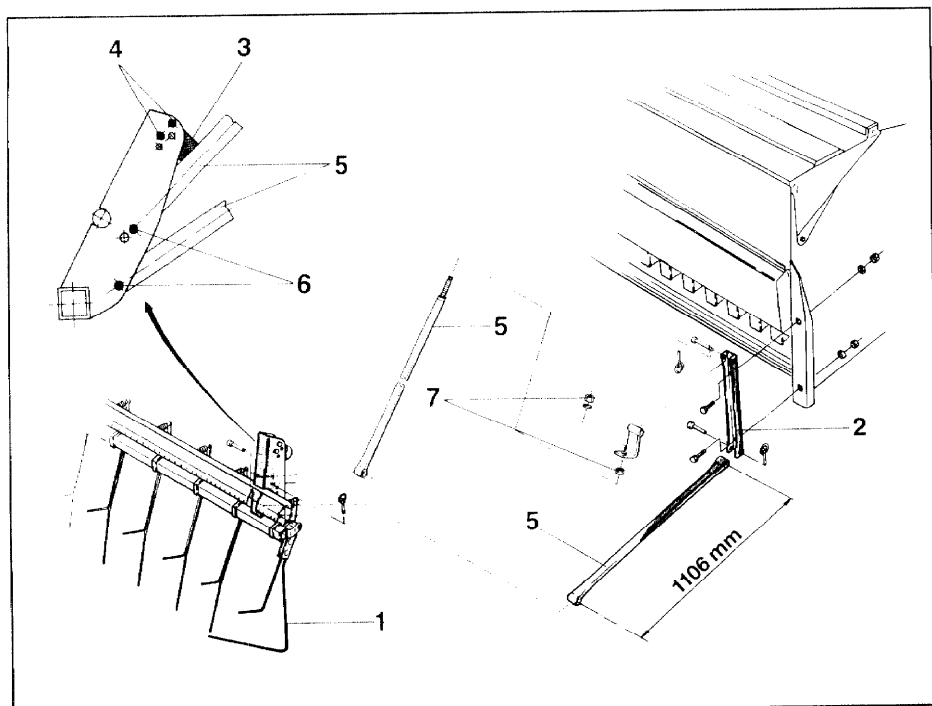
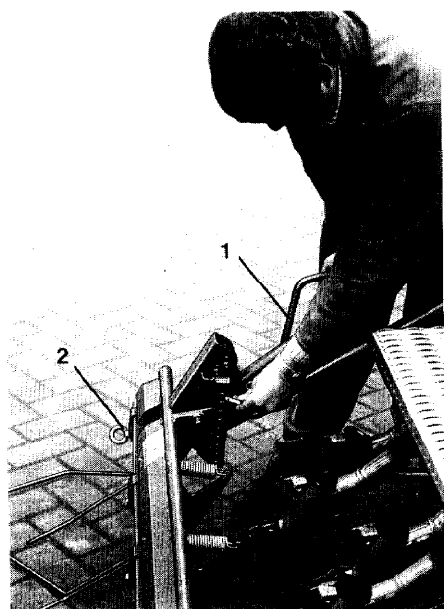

Fig.60
Fig.61
Before fitting the seed box rape insert the agitator shaft drive should be disengaged and the fingers of the agitator shaft should be placed in a vertical position. To do this remove the clip pin which connects the drive with the agitator shaft as shown in Fig. 61.
After sowing the seed is evenly covered with soil by the Extra Coverage Following Harrow (Fig. 60/1). Like the roll disc coulters, the Extra Coverage Following Harrow operates totally without blocking even where there are large amounts of organic material (trash) on the field.
- Fit the corresponding number of mounting plates (Fig. 60/2) to the outer right hand and left hand part (at 4 m seed drills also in the centre) of the seed box. Bolt swing metal buffers (Fig. 60/3) into the holes (Fig. 60/4) of the harrow hinge plate as illustrated.
- Insert parallel guide rubes (Fig. 60/5) by pins to the hinging brackets of the Extra Coverage Harrow in the holes (Fig. 60/6) and of the mounting plates (Fig. 60/2). Secure all pins with lynch pins.
1. The 'L'-shaped endings of the harrow tines should be set in such a way that they rest about level on the ground and are allowed to move downwards by approx. 5 to 8 cm. This is achieved by setting the length at the threaded end of the upper parallel tube by resetting the position of the nuts with a counter nut (Fig. 60/7).
2. Set the pressure of the 'L'-shaped endings of the harrow tines in such a way that now visible ridges of soil are left on the field after covering the seed. For changing the tine pressure of the Extra Coverage Harrow the position of the limiting pin - shown in Fig. 61 - can be changed by inserting it into another hole and by securing it. Use the calibration crank (Fig. 61/1) to overcome the spring tension. For checking the proper seed coverage travel approx. 30 m with the later on intended forward speed on the field.
For road transport the **outer** harrow tine elements (Fig. 60/1) should be removed from the square tube by inserting and undoing the wing nut (Fig. 61/2) to avoid exceeding the permissible transporting width. Also put on traffic security board for the Extra Coverage Following Harrow as indicated in para. 31.